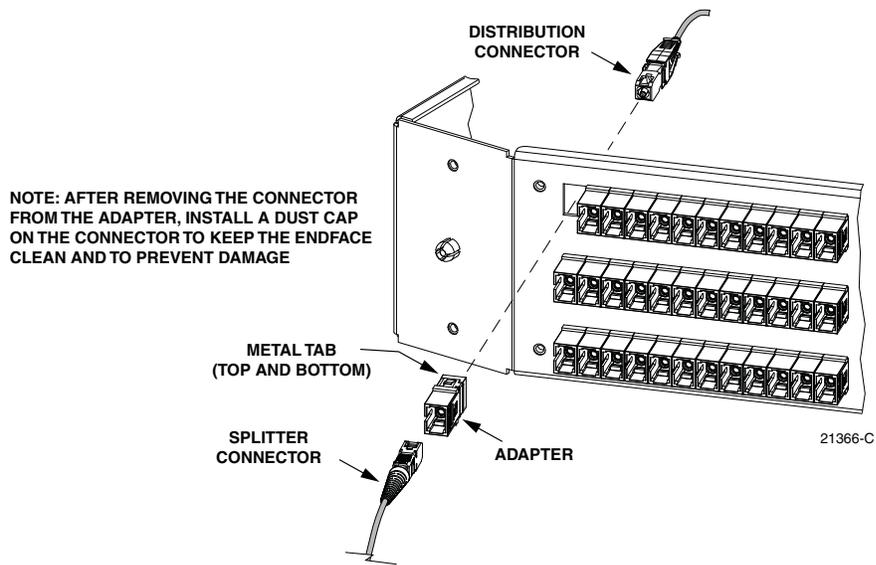

Figure 38. Adapter Removal and Replacement
1. Disconnect the splitter connector from the front side of the broken adapter as shown in Figure 38 and install a dust cap on the connector.